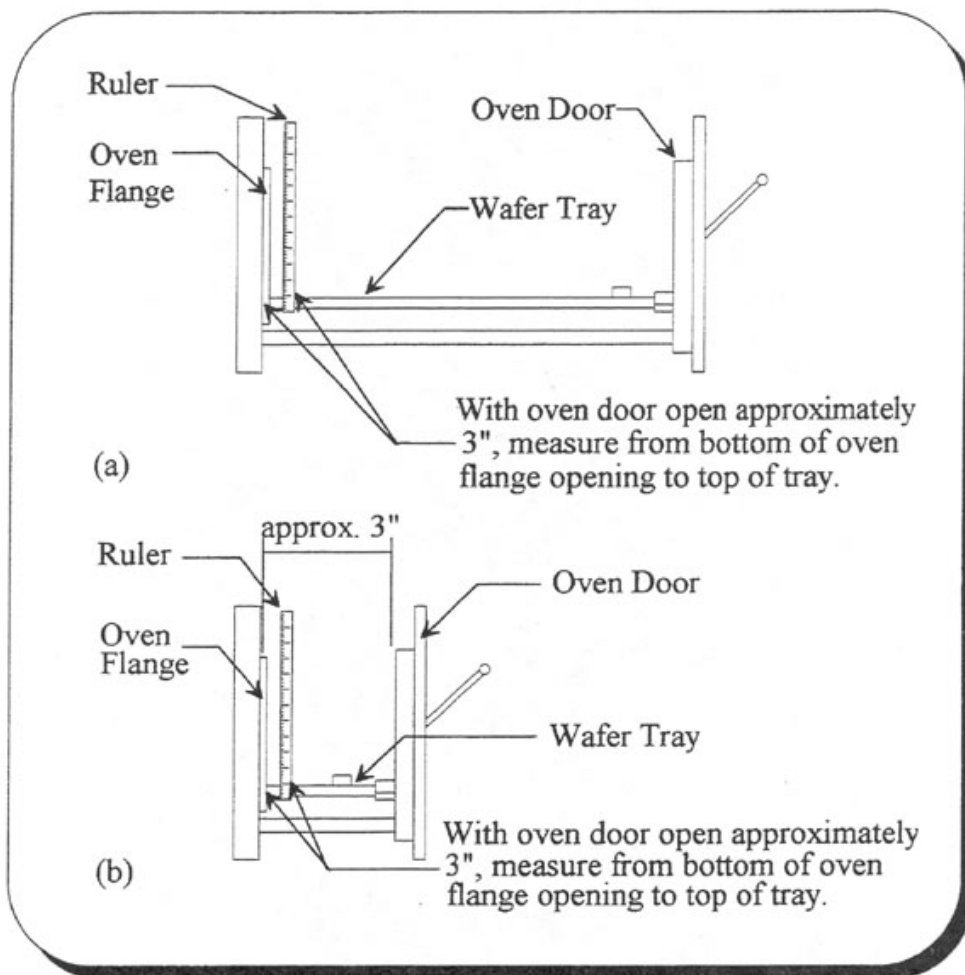

Figure 4-9. Leveling the Wafer Tray
1. Close the oven door until the edge of the tray is flush with the oven flange. (See Figure 4-9, part (a)). Using a ruler, measure the distance from the bottom of the oven flange to the top edge of the wafer tray. Measure the tray on both sides to verify that it is level from side-to-side.